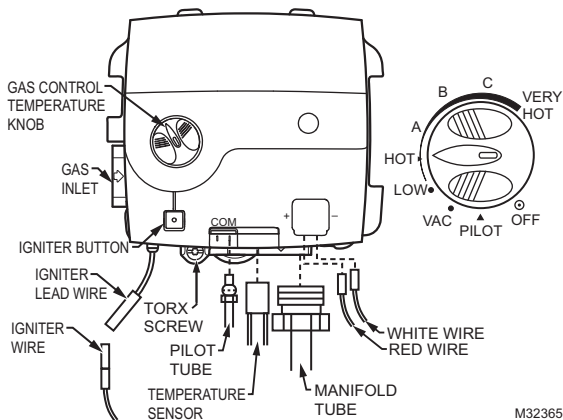

Fig. 2. Gas Control Valve/Thermostat
7. Disconnect the igniter wire from the igniter lead wire. Use needle nose pliers to disconnect the red (+) and white (-) thermopile wires. Disconnect the temperature sensor wire connector. Disconnect pilot tube (7/16" wrench) and manifold tube (3/4" wrench) at the gas control valve/thermostat (Figure 2).